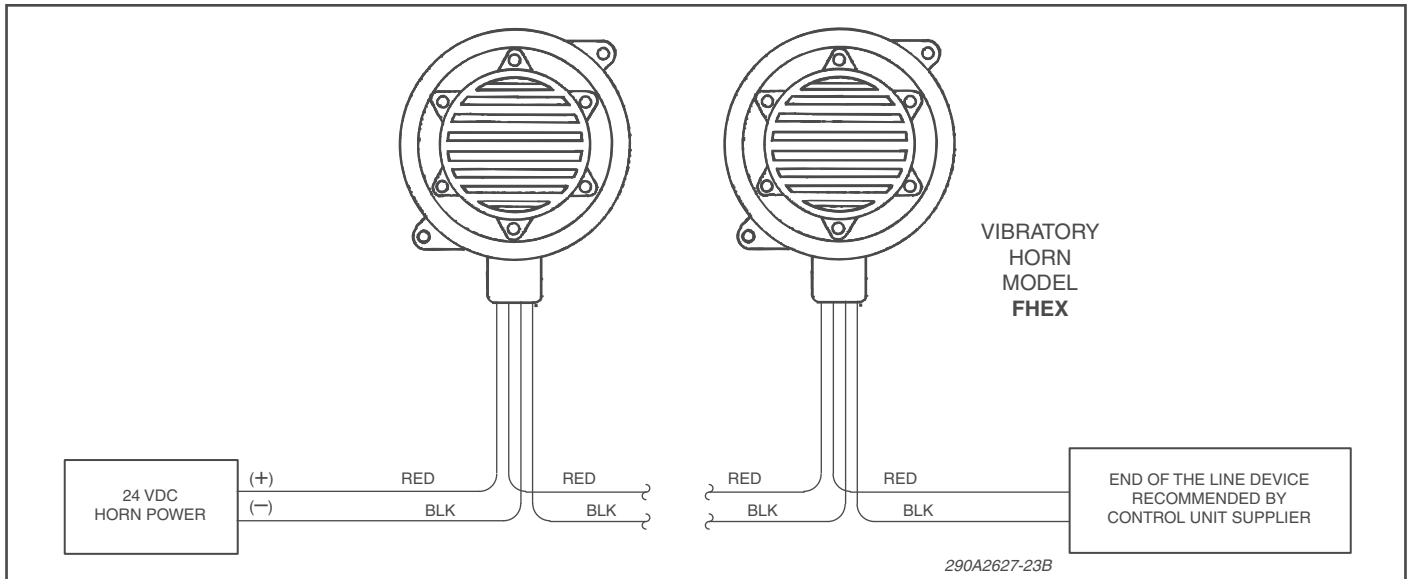

Figure 2. Typical Horn Installation Wiring.
- a. See Figure 2. Connect the device's red (+) leads to the power source positive (+) lead. Connect the device's black (-) leads to the power source negative (-) lead.